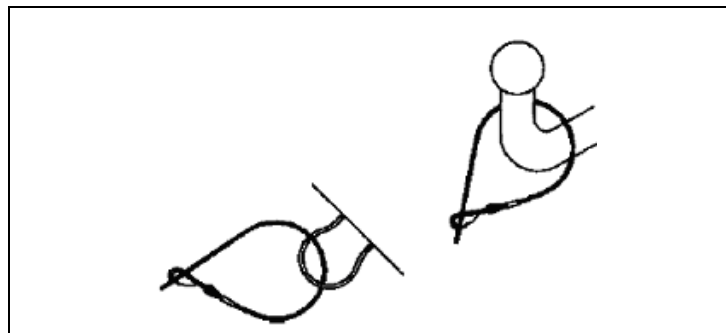

Figure 3.2 – Release cable
- ❺ Fix the release cable to the attachment point on the hitching plate (figure 3.2) then connect the electrical cable plug controlling the lamps, indicators, etc. to the socket on the towing vehicle.
- ❻ Lift the guide roller completely and lock it in position, making sure that it is not impeding the brake rod or the release cable.
- ❼ Ensure that the parking brake is completely disengaged, pushing its handle down fully. If necessary, remove the wheel chocks and store them.
- 5 Attach the release cable to the attachment point on the hitching plate (figure 3.2) then connect the electrical cable plug controlling the lamps, indicators, etc. to the socket on the towing vehicle.